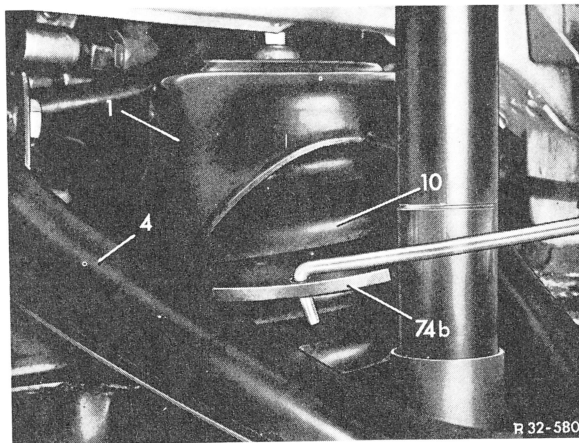
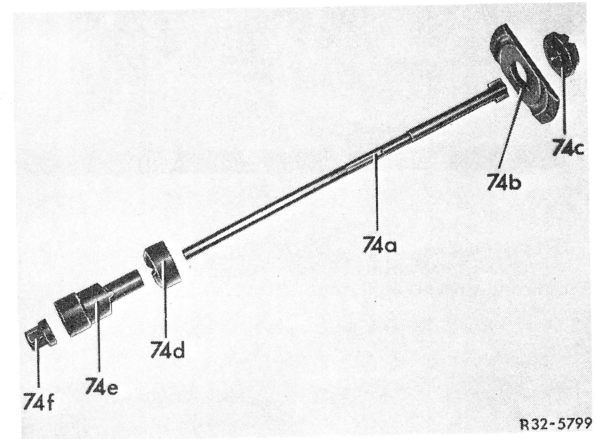
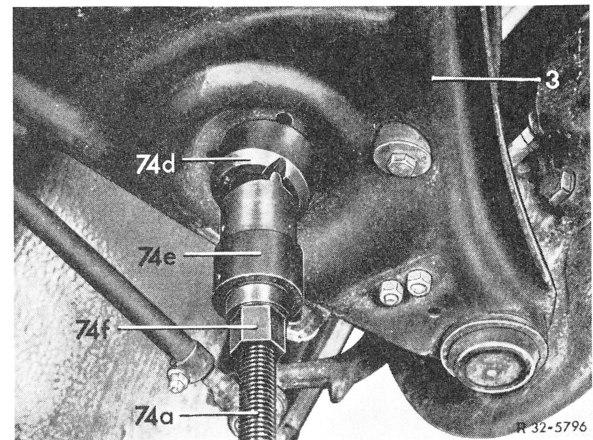

Fig. 1
Fig. 2
Fig. 3
- 3 Insert thrust plate (74b) of spring tensioner into front spring (Fig. 1) and mount upper thrust piece (74c) (Fig. 2).
- 4 Insert clamping screw into upper thrust piece through lower control arm (Fig. 2). Slide on lower thrust piece (74d) and guide bushing (74e) (Fig. 3).
- 10 Remove spring tensioner and pull thrust plate out of the front spring using a suitable hook (Fig. 1).